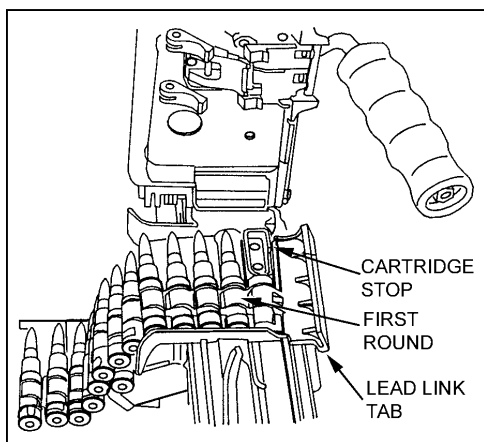

Figure 1-31. Belt-fed ammunition.
a. **Belt.** When loading belted ammunition (Figure 1-31), always cant the weapon to the right. Make sure the open side of the links is facing down, and place the lead link tab or first round of the belt in the tray groove against the cartridge stop. The rounds should be placed flat across the feed tray. With your left hand, count five to six rounds down to hold ammunition in place on the feed tray, while at the same time closing the feed cover with your right hand. When closing the feed cover, always place your hand in front of the rear sight to prevent accidentally changing the sight adjustment.